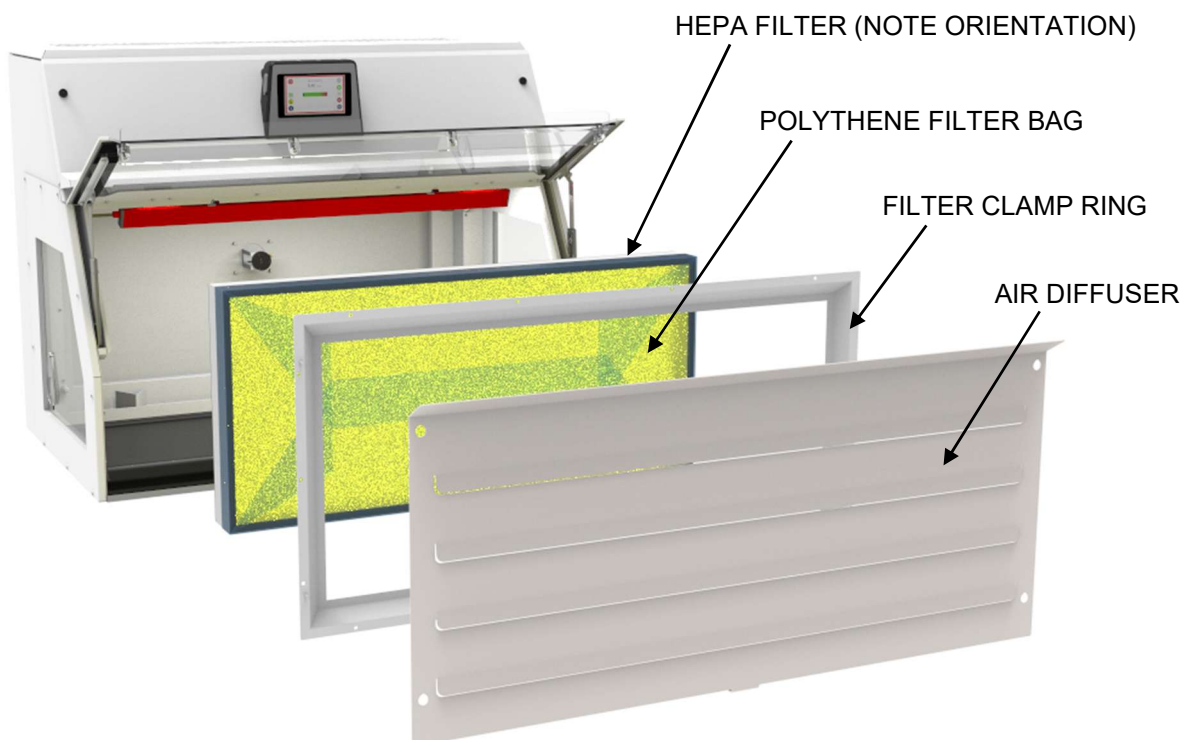

Fig 4.3
2. Remove the *Air Diffuser* panel by lifting the panel up and towards you. The panel is heavy and may require a bit of force to free it from its fixing pegs. Take care not to damage the side and front glazing whilst removing it, ref **Fig 4.3**.